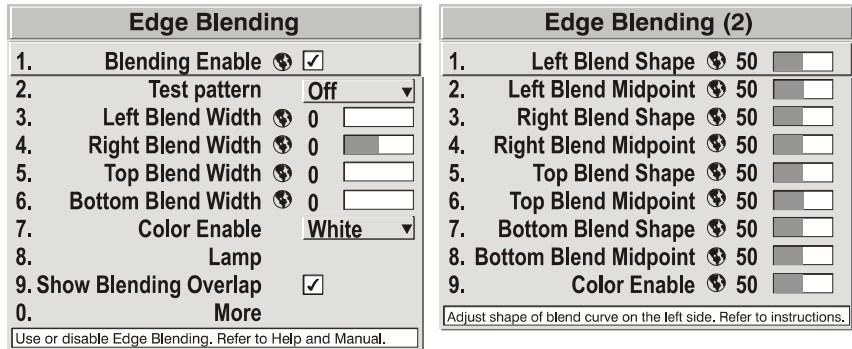

Figure 3.38. Set Starting Points for Each Projector
3. SET STARTING POINTS FOR ADJUSTMENT (Figure 3.38):
- Go to “More” and set everything in the *Edge Blending (2)* menu to 50.